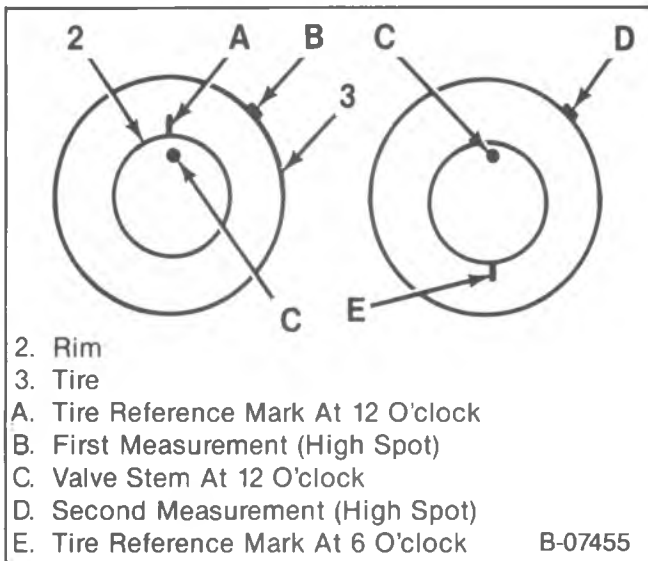

Figure 4—Checking Tire to Wheel Vectoring
- If the trend is uneven, wrap tape tightly around the tire, record the runout magnitude, and mark the high spot location (figure 4).
- Break the tire and wheel assembly down on a tire mounting machine and rotate the tire 6 hours (180°) on the rim (figure 4).